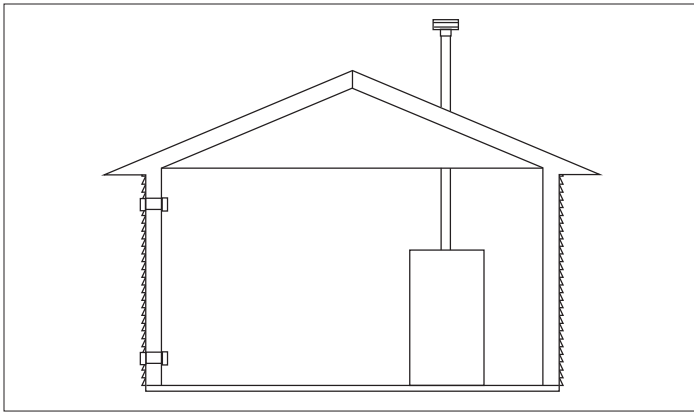

Figure 23 - Combustion Air from Outdoors
1. If air is taken directly from outside the building with no duct, provide two permanent openings to the mechanical room each with a net free area of one square inch per 4000 BTU/hr input. See Figure 23.